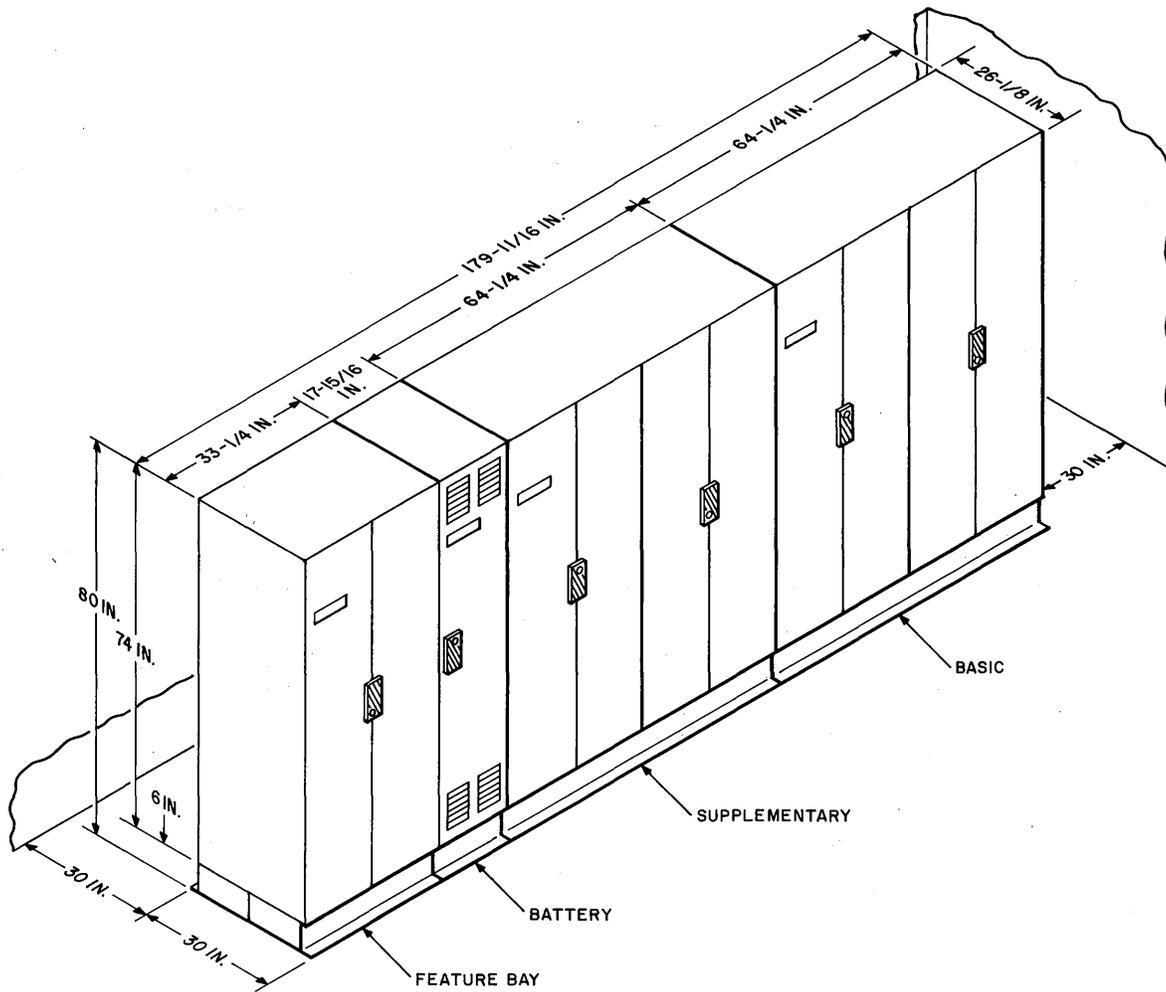

Fig. 2 — In-Line Arrangement Of Two 100-Line Modules, Feature Bay, and Optional Battery Reserve Supply With Dimensions.
2.04 Three additional equipment modules may be added to either the 100-line or 200-line PBX on an in-line basis to provide for heavy traffic capability, incoming selectors and dial repeating tie trunks, and external battery reserve supply. A relay rack framework assembly may also be added to provide space for sixty-five 2- by 23-inch mounting plates if required. Each of these modules may be furnished with separate cabinets, illustrated in Figure 2 as a feature bay.
3.02 The floor space requirements for the PBX modules, the option battery reserve cabinet, and the required maintenance space are shown in Figure 2.